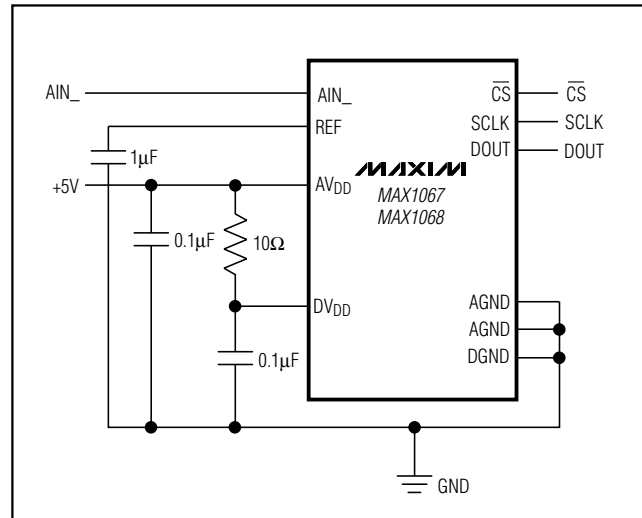

Figure 25. Powering AVDD and DVDD from a Single Supply
Use printed circuit (PC) boards with separate analog and digital ground planes. Do not use wire-wrap boards. Connect the two ground planes together at the MAX1067/MAX1068 AGND terminal. Isolate the digital supply from the analog with a low-value resistor ( $10\Omega$ ) or ferrite bead when the analog and digital supplies come from the same source (Figure 25).